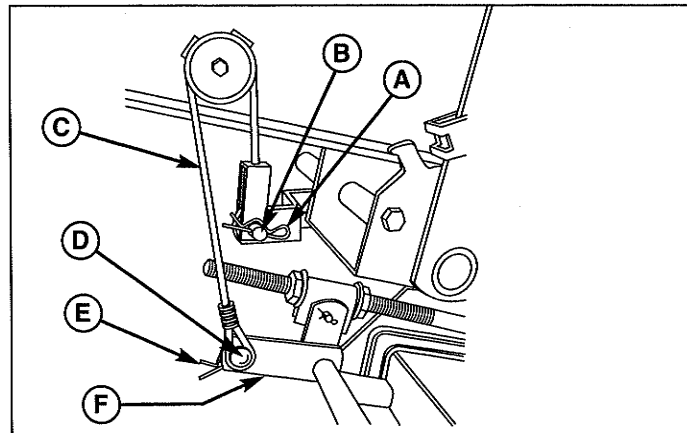

Figure 9. Mower Lift - 50" Manual Lift Models
3. **50" Manual Lift Models:** Disconnect the mower lift cables (C, Figure 9) from the mower lift arms (F). Re-install the clevis pins, washers and hairpin clips for storage.